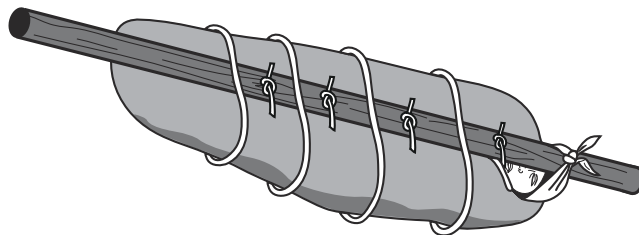

Figure 9-5. Pole Carry.
- The pole is placed along the casualty's length and secured using square knots with two overhands with the ends of the sling ropes. The square knots should be so tight that the overhands are tied onto themselves. See figure 9-5.